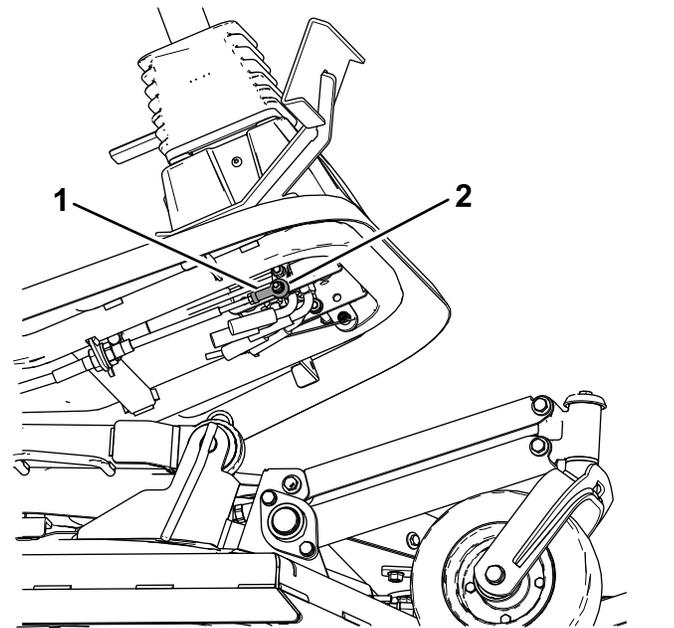

Figure 81
4. Loosen the jam nut securing traction cable rod-end bearing to the pedal (Figure 81).
5. Remove the bolt and nut securing traction cable rod-end bearing to the pedal (Figure 81).
7. Tighten the jam nut (Figure 81) and secure the rod-end bearing to the traction pedal with the bolt and nut removed to lock the angle of the foot pedal.